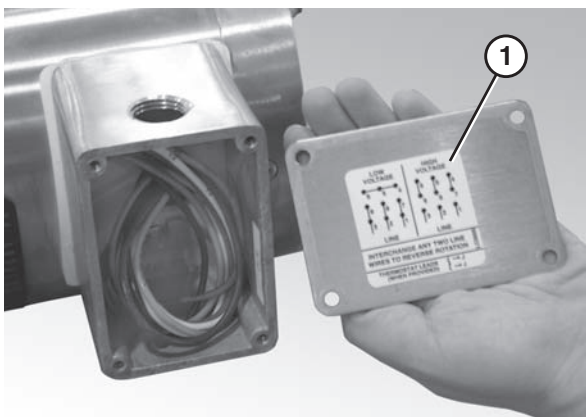

Figure 28
2. Refer to the wiring diagram (Figure 28, item 1) on the inside of the junction box cover.